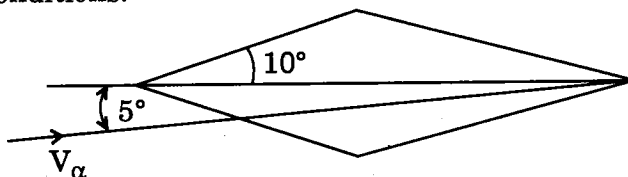

Figure 1
8. Consider a double wedge airfoil having chord $C = 2$ m and half angle 10° kept at an angle of attack of 5° in supersonic stream of Mach number 2.5 as shown in Figure 1. Evaluate lift and drag of this airfoil considering sea-level conditions. 10